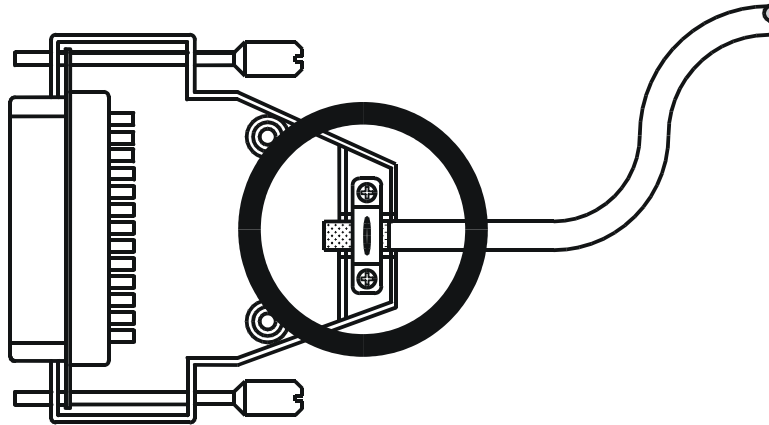

Fig. 1: Shielding of SUB-D connectors in conformity with EMC standards.
- The shield (impedance shielding) **must**, in its entire perimeter, be drawn behind the shielding clamp of the metallised connector housing, respectively of the EMC gland bushing, its greatest possible surface area being clamped under a strain relief (refer to Fig. 1).